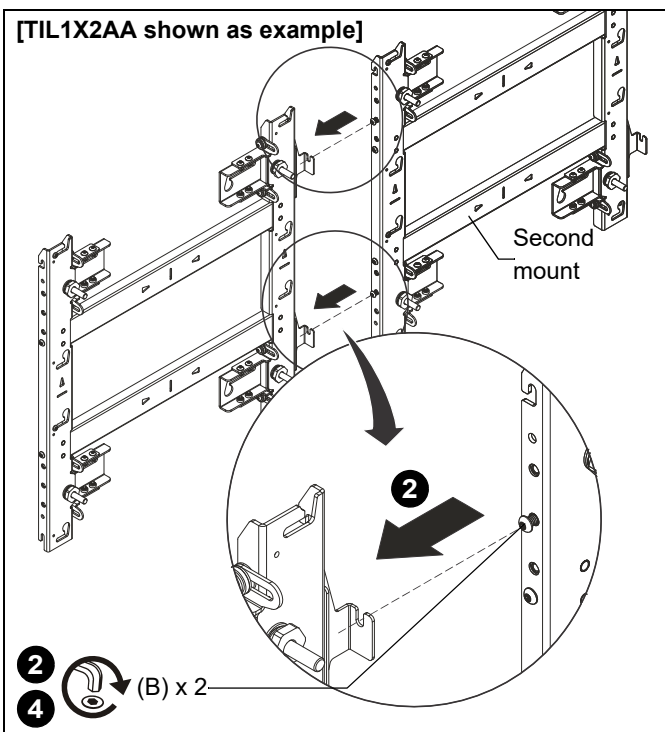

Figure 14
2. Connect second mount to the right side of the already installed mount hanging it by the 1/4-20 x 1/2" button head screws (B) onto each horizontal connector on the mounts right side. (See Figure 14)
4. Tighten both fasteners (where the second mount is hung on the first mount) to fasten two mounts together. (See Figure 14)